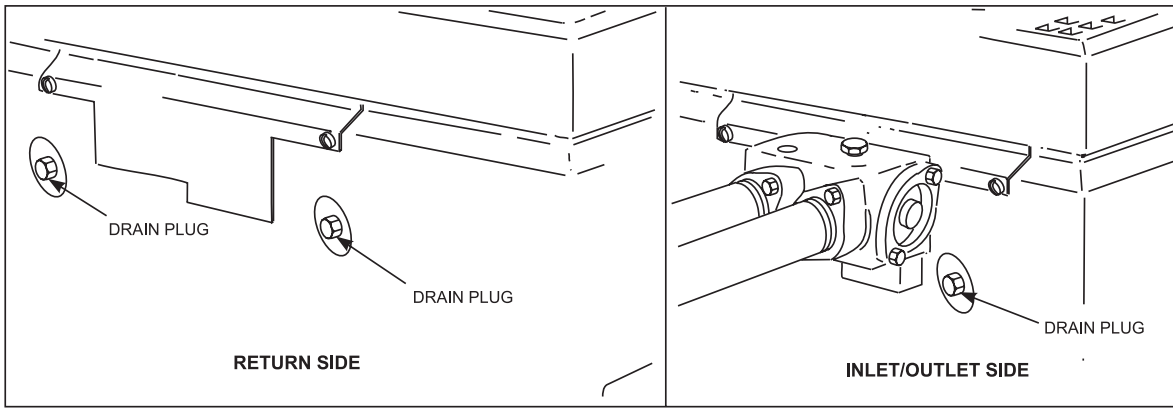

Figure 20. Heater drain locations.
4. Remove the drain plug from the return header (see Figure 20), loosen the drain plug from the inlet/outlet header, and completely drain the heater before the first frost.